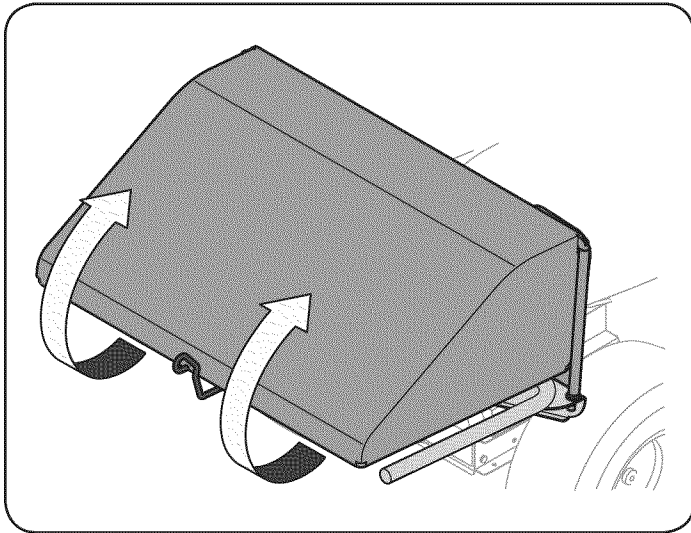

Figure 11
1. Open the grass bag cover by lifting the lower rear of the cover and pivoting it upwards. It is not necessary to remove the discharge chute in order to empty the grass bags. See Figure 11.